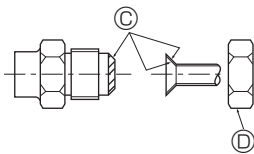

Fig. 4-2
### 4.2. Connecting pipes (Fig. 4-1) (Fig. 4-2)
- The indoor parts of the drain pipe should be wrapped with polyethylene foam insulation materials (specific gravity of 0.03, thickness of 9 mm, 23/64 inch or more). (Fig. 4-2)